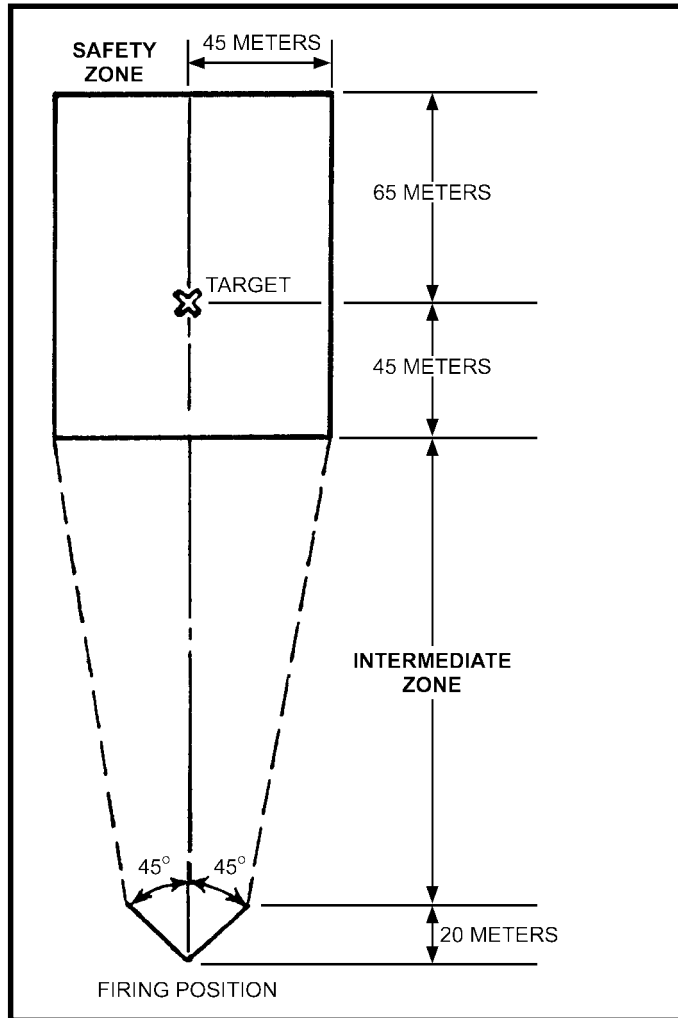

Figure A-13. Minimum range area.
b. A scale ratio of 1:10 is used to relate the range and deviation between the subcaliber projectile and standard 81-mm service projectile. Thus, the minimum range requirement for firing through charge 4 is an area 500 meters deep, and wide enough to accommodate the desired number of targets plus a 45-meter safety zone on each side of the flank targets (Figure A-13, page A-12).